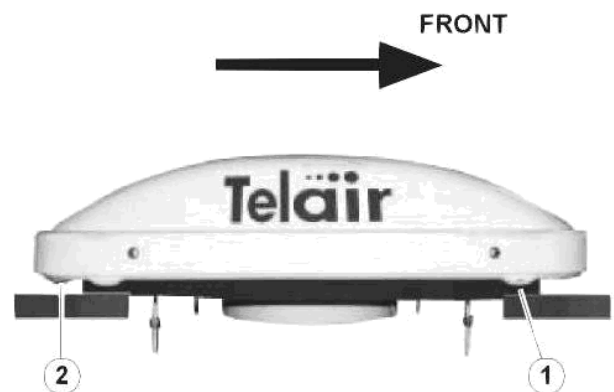

Fig. 20
Before positioning the evaporating unit on the roof of the vehicle, you must spread a proper amount of slow-drying sealant around the edges of the opening. Put the evaporating unit onto the roof of the vehicle and place it over the opening, previously treated with the sealant. Make sure that the side holes (which are on the bottom) **Fig. 20 Ref. 1** face the driving direction of the vehicle,
while the rear holes **Fig. 20 Ref. 2** follow the rear of the vehicle.
The arrow on **Fig. 20** shows the driving direction of the vehicle.
**INFORMATION** The control panel (Fig. 20) allows automatic control of temperature in the vehicle interior.